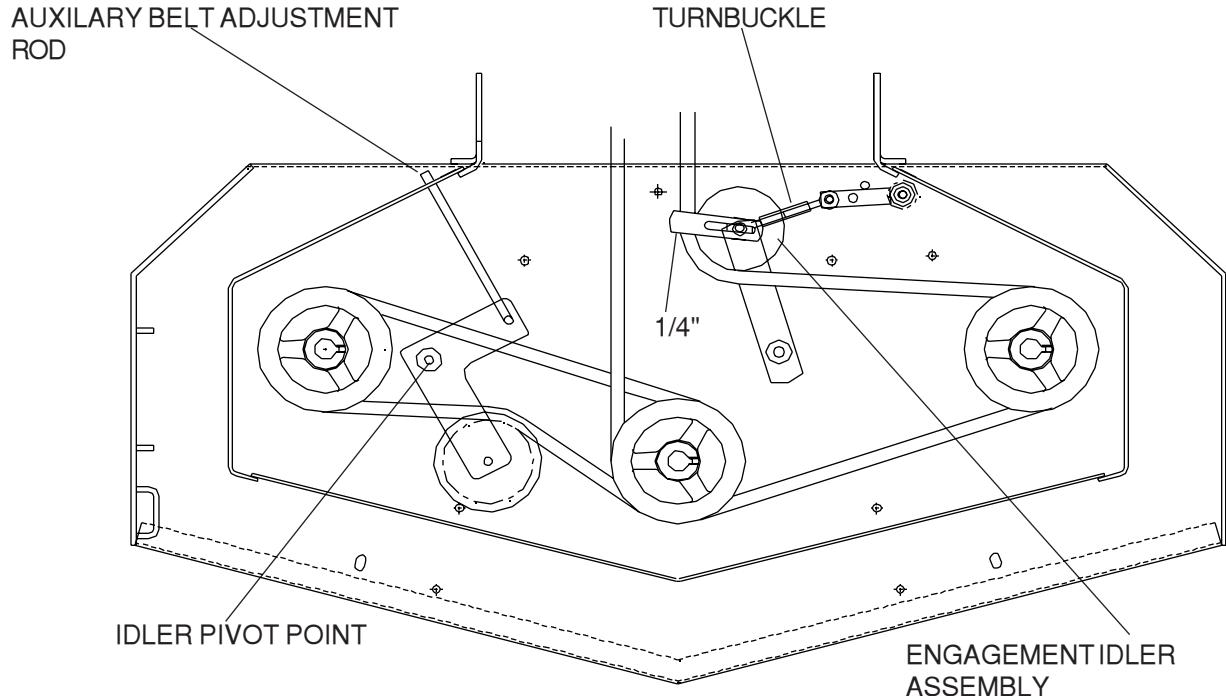

Figure 5
5. To increase belt tension rotate turnbuckle toward the rear of the mower until desired tension is gained. Do not over tighten belts, to much tension will reduce belt and spindle bearing life. (see fig. 5)
2. To adjust tension on the auxiliary belt rotate nut on linkage that is attached to deck strap located on the right side of cutter deck.(see fig. 5)